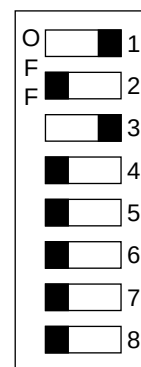

Figure 5-102
- 3-1) Set DSW1 on the finisher controller PCB as shown in Figure 5-102.